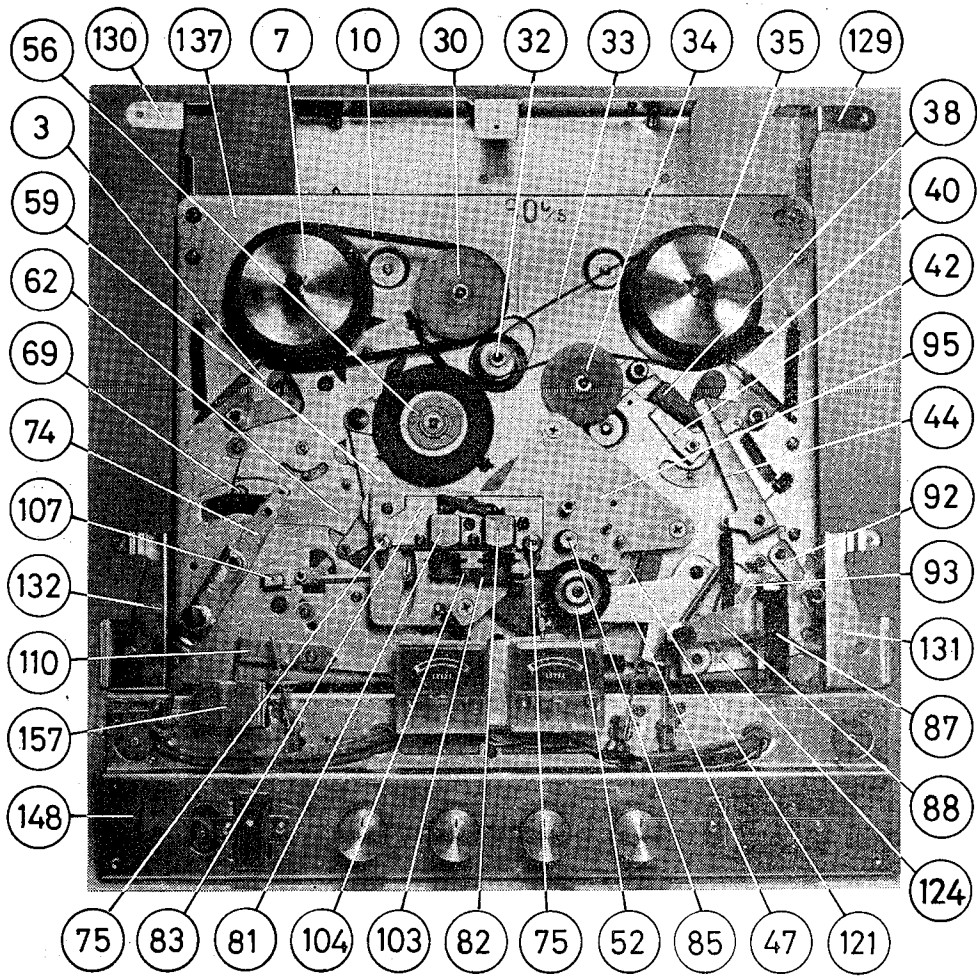

Figure 2
### (1) FORWARD PLAY (Refer to Figure 2, 3 and 4)
### (2) RECORDING (Refer to Figure 2 and 4)
**(3) STOP** (Refer to Figure 2 and 4)
**(4) REWIND** (Refer to Figure 2, 3 and 4)
**(5) FAST FORWARD** (Refer to Figure 2 and 4)